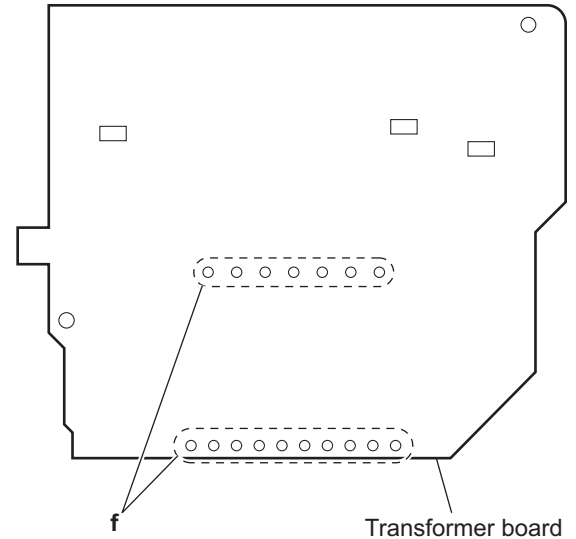

Fig.16
3.1.12 Removing the power transformer (See Fig.16)